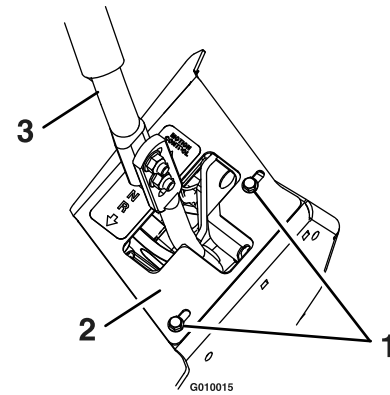

Figure 38
1. Loosen the screws on a cover plate (see Figure 38).